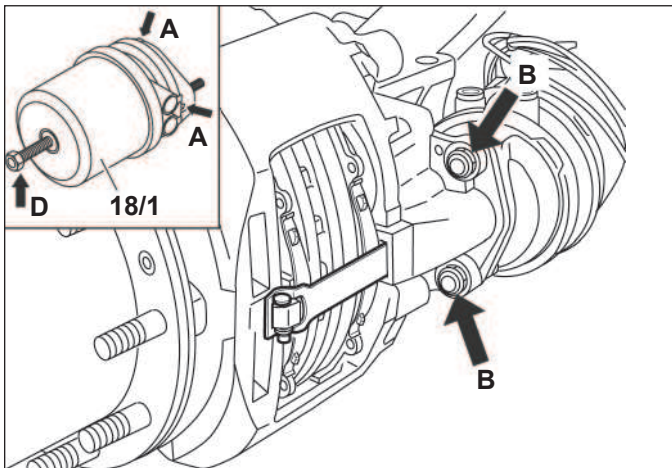

Figure 43 – Actuator Spring Caging and Removal
5.4.3 With the vehicle on a level surface and the wheels properly chocked, apply air to release the spring brakes (parking brakes) by using the dash-mounted air control valve. Back out the release bolt (See *Figure 43*, arrow "D"), using a maximum torque of 26 ft-lbs (35 Nm) to cage the air released spring force on the pushrod.
Note: Where a new spring brake chamber is being installed, note that in some cases drain plugs are installed (See *Figure 43*, arrows marked "A"). Where drain plugs are present, after installation, remove whichever plug is at the lowest position. The selected drain hole must be aligned downwards (or within ±30°) when installed on the vehicle. In the case of spring brake chambers, install the pads before uncaging the spring.